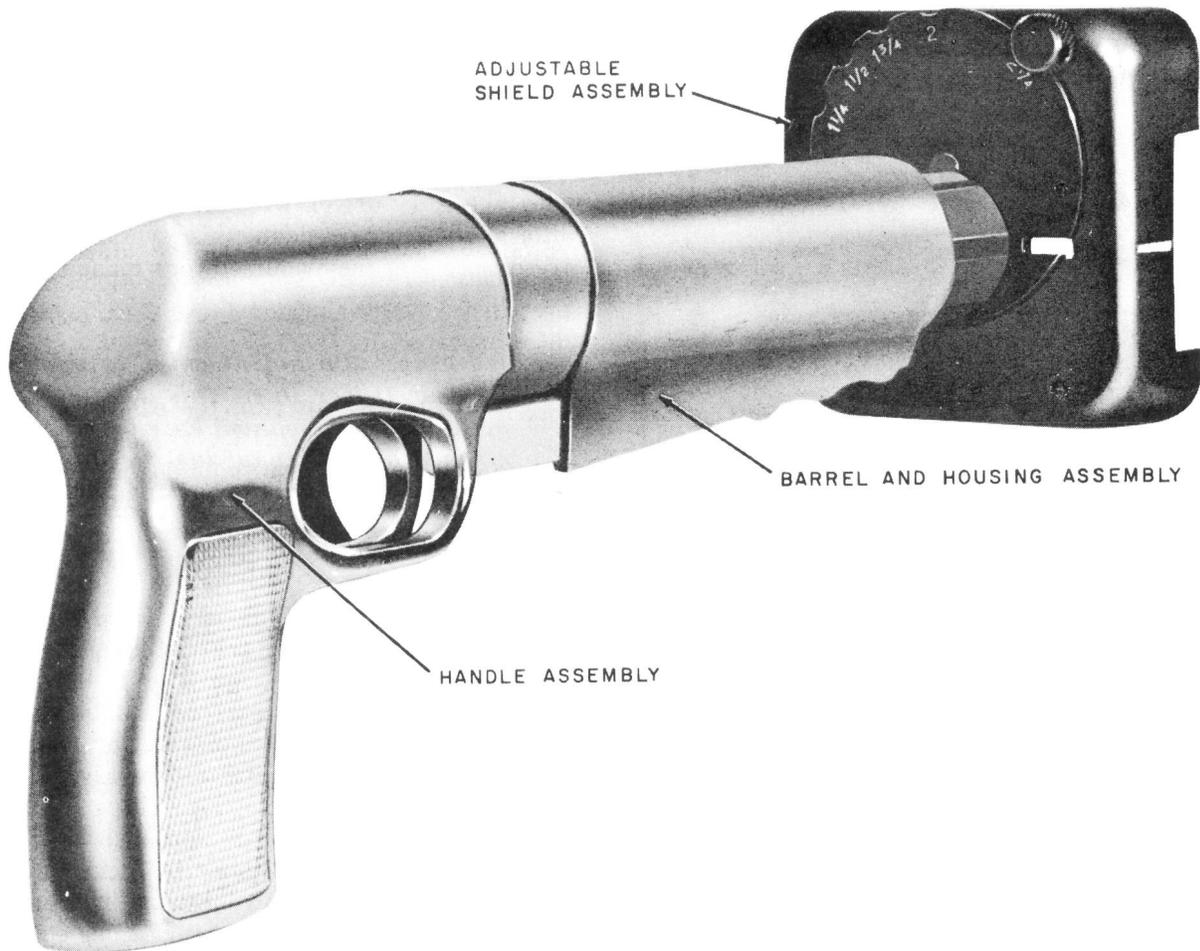

Fig. 1—Typical Stud Driver
2.01 The B Stud Driver is a powder-actuated, *low-velocity* tool that utilizes the energy from a special cartridge (the B or C Power Load) to drive a piston that acts as a hammer which sets a masonry fastener into steel or concrete. A typical stud driver is illustrated in Fig. 1.